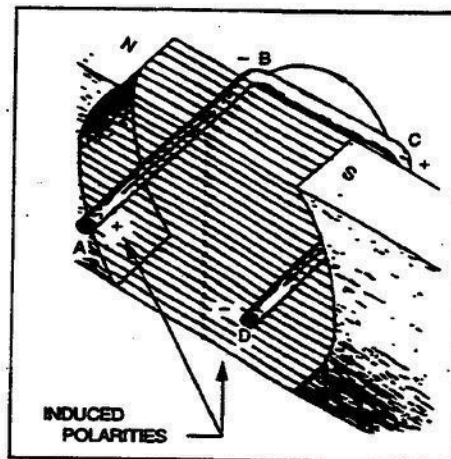

Figure 2-59. Polarity of induced voltage.
**Induced voltage.** To analyze the operation of a simple alternator, refer to figure 2-59. In this drawing, the loop of wire is rotating counterclockwise within the magnetic field. At the instant of time illustrated, the section of the loop from A to B is passing downward through the magnetic field. Application of the left-hand rule for generators to this side of the loop shows the electrons being forced from A toward B as indicated by the arrow on the left-hand side of the loops. Since the electrons are leaving A and being concentrated at B, end A assumes a positive charge while end B takes on a negative charge.